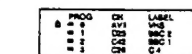

Fig. 25
- 4 Using Δ+ or ∇-, select the programme position you want to block and press OK. The symbol appears in front of the programme number indicating that this programme is now blocked. (See Fig. 25.)